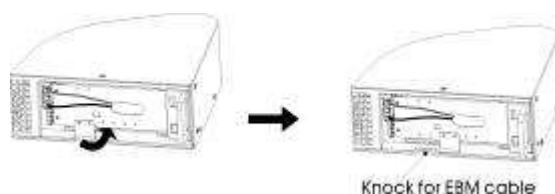

Figure12 Removing the UPS Cable Knockout
2. On the bottom of the UPS front cover, remove the EBP cable knockout (see Figure 12).